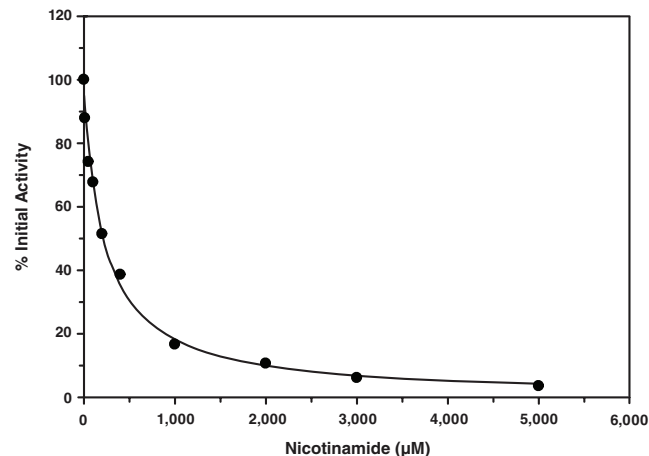

Figure 3. Inhibition of SIRT3 by nicotinamide ($IC_{50} = 200 \mu\text{M}$)
4. Graph either the Percent Inhibition or Percent Initial Activity as a function of the inhibitor concentration to determine the IC_{50} value (concentration at which there was 50% inhibition). An example of human recombinant SIRT3 inhibition by nicotinamide, a sirtuin-specific inhibitor, is shown in Figure 3 on page 17.⁹